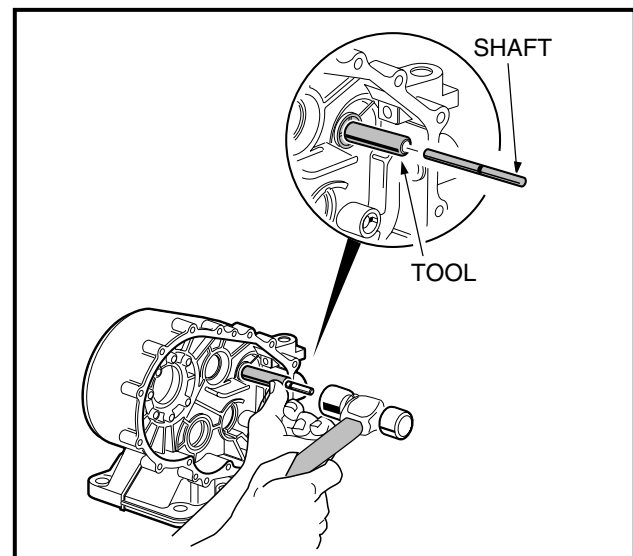

Figure 19-44 Governor Gear Shaft
3. Position the governor gear shaft installation tool (CCI P/N 101933101) over the shaft bore in the inside of the left (driver) side case and insert the governor gear shaft into the tool, long end (from the groove) first, as shown (**Figure 19-44, Page 19-22**). Make sure the shaft is started into the bore, then using a plastic or rubber hammer, carefully tap the governor gear shaft into the bore until the end being tapped is flush with the end of the tool. Remove installation tool.